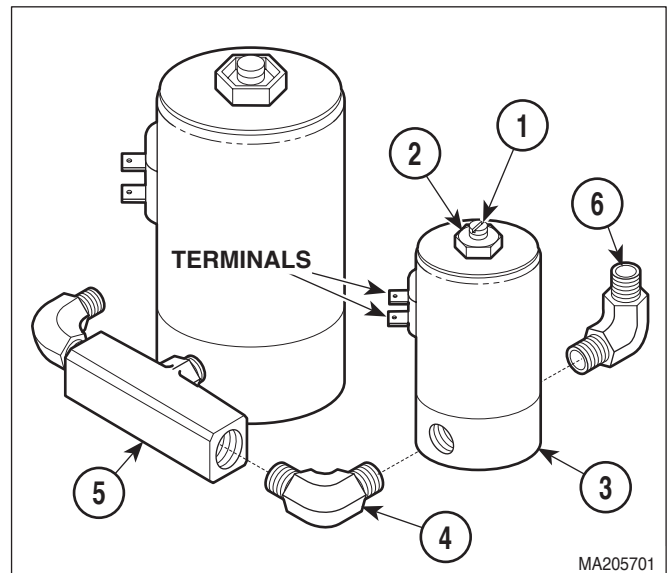

Figure 4-11. Vent Solenoid Fittings Removal / Installation
- (7) Remove manifold assembly (12) and spacer (12A) from base (13).
- (8) Hold screw (1, Figure 4-11) and loosen nut (2). Turn terminals out of the way.
- (9) Remove assembled vent solenoid (3) and elbow (4) from tee (5).
- (1) Coat the threads of elbows (4 and 6, Figure 4-11) with teflon tape.
- (2) Install elbows (4 and 6) on vent solenoid (3).
- (3) Hold screw (1) and loosen nut (2). Turn terminals out of the way.
- (4) Install assembled elbow (4) and vent solenoid (3) on tee (5).
- (5) Turn terminals of vent solenoid (3) so wires will connect easily to vent solenoid.
- (6) Hold screw (1) and tighten nut (2).